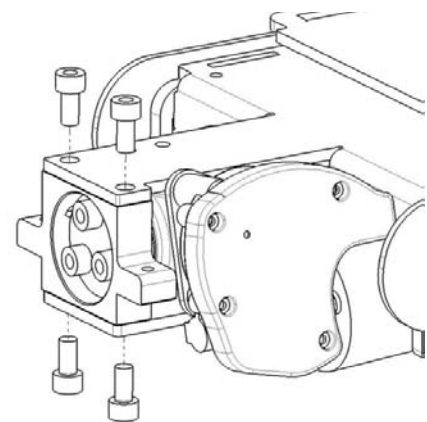

Fig. 7. Mount the four screws holding the rear edge of the actuator.
3. Mount the four screws holding the rear edge of the actuator. See fig. 7.